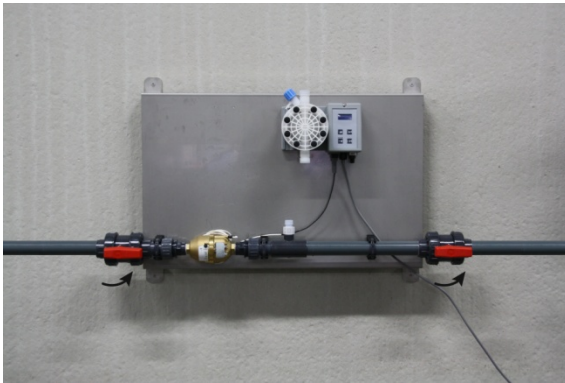

Figure 1: Opening the ball valves
- Connect the water supply to the inlet and the outlet pipe (for treated water) to the outlet. Open the ball valves at the pump inlet and outlet (Figure 1).